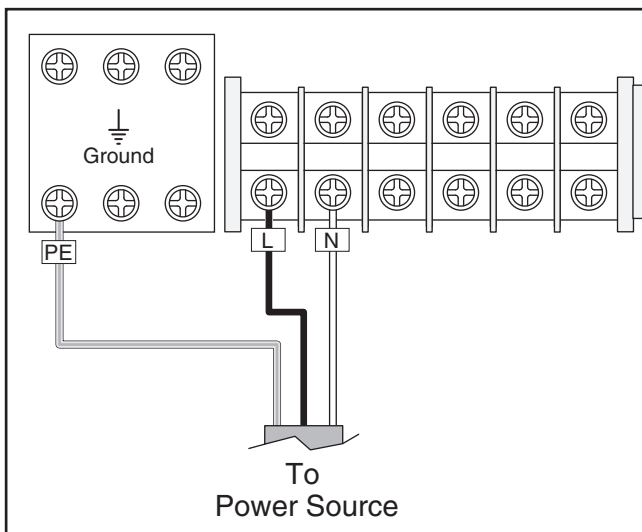

Figure 20. Incoming power wires connected inside electrical cabinet.
3. Identify **L** and **N** terminals and grounding terminal (**PE**), illustrated in **Figure 20**, then connect incoming hot wires and ground wire to those terminals.
6. Push POWER START button, then move spindle lever (see **Figure 20**) down to start spindle forward rotation. The top of chuck should turn down and toward front of lathe.